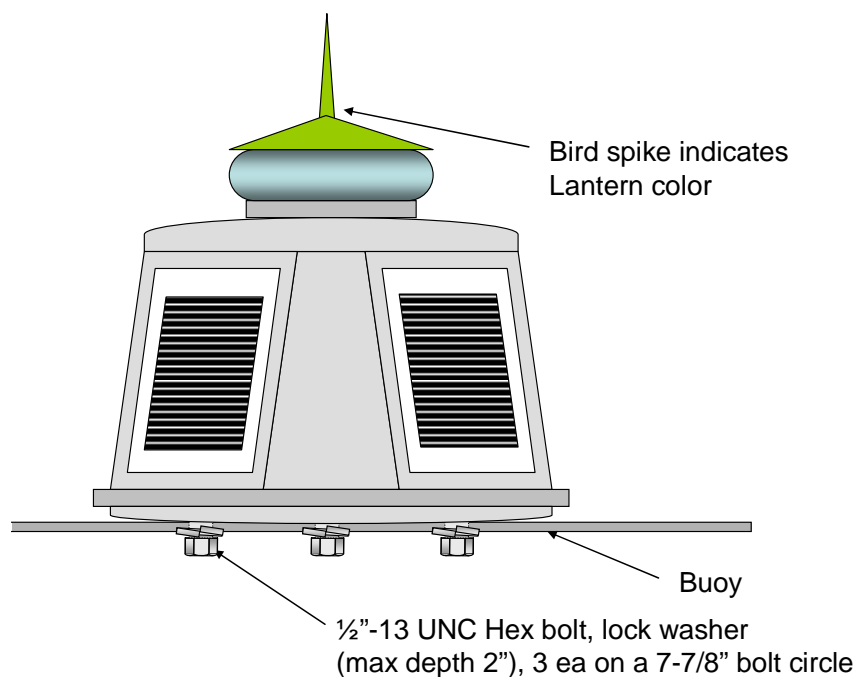

Figure 3-7
- c. On steel buoys, loosely install one 1/2" stainless steel threaded rod or a bolt with the head removed to act as a locating pin for the lantern mount on top of the radar reflector. Install the lantern in one of those holes and swing the base until the other two holes are lined up. Insert two 1/2" stainless steel bolts with lock washers to secure the lantern. Remove the treaded rod and insert a 1/2" bolt, or install a lock washer and nut on the rod. Tighten all fasteners. See Figure 3-7.